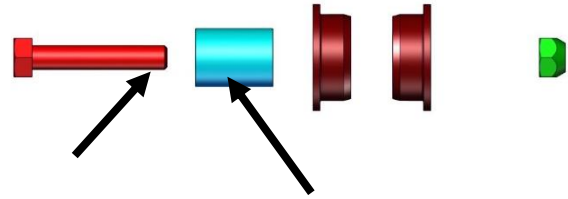

Figure 279
13. In order to retain the control, arm the 5/16" bolt should be torqued to 22 ft. lbs. (30 Nm) The head and nut of the bolt should be secured on the spacer that goes through the bushing. Figure 279. This will make sure that the arm turns on the bushing and not the nut or head of the bolt.